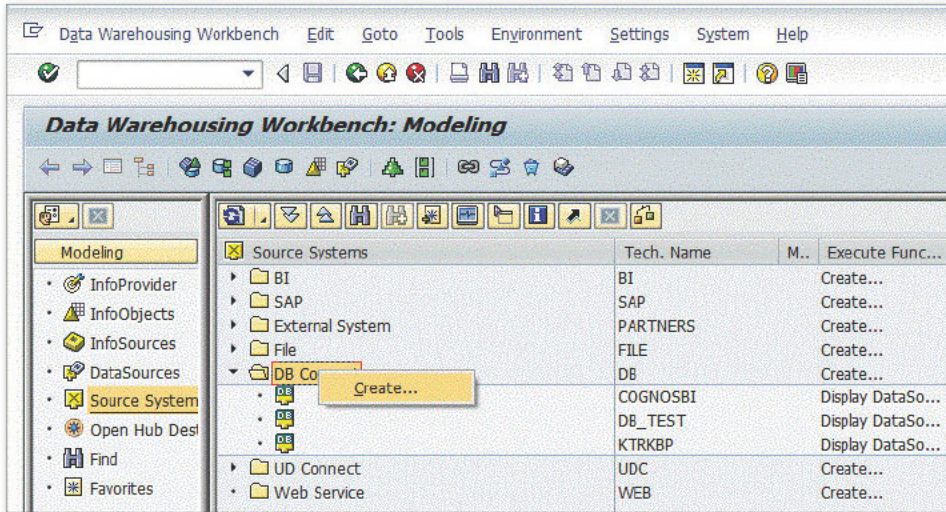

Figure 1 Choosing Create from the Context Menu
1. Enter Transaction RSA1, and click on the SOURCE SYSTEM option (left pane). Then right-click on DB CONNECT, and choose CREATE (Figure 1) to add a new source system.